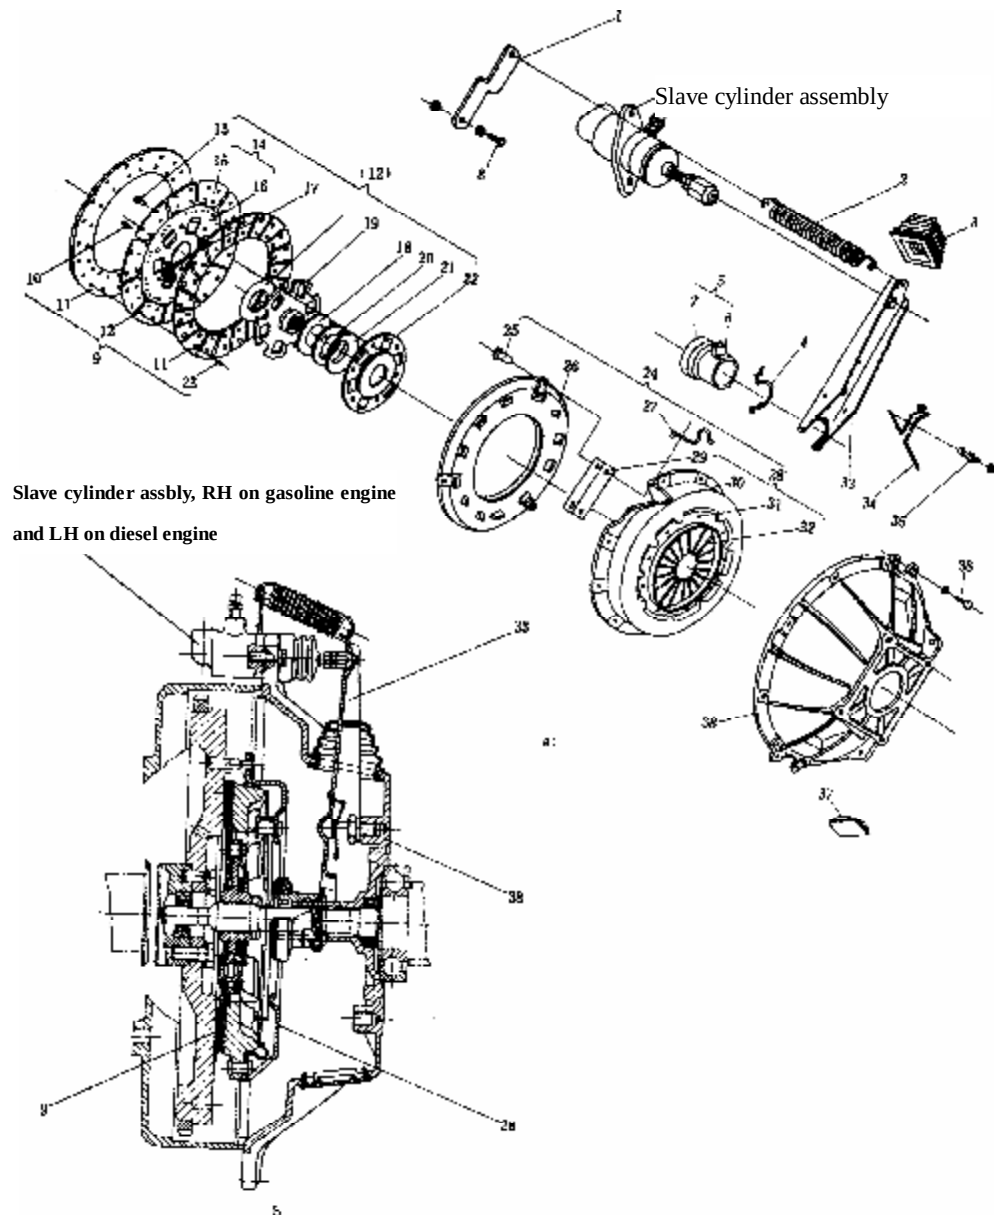

Figure 10-1-1 Diaphragm Spring Clutch
1. Diaphragm spring clutch (Figure 10-1-1)